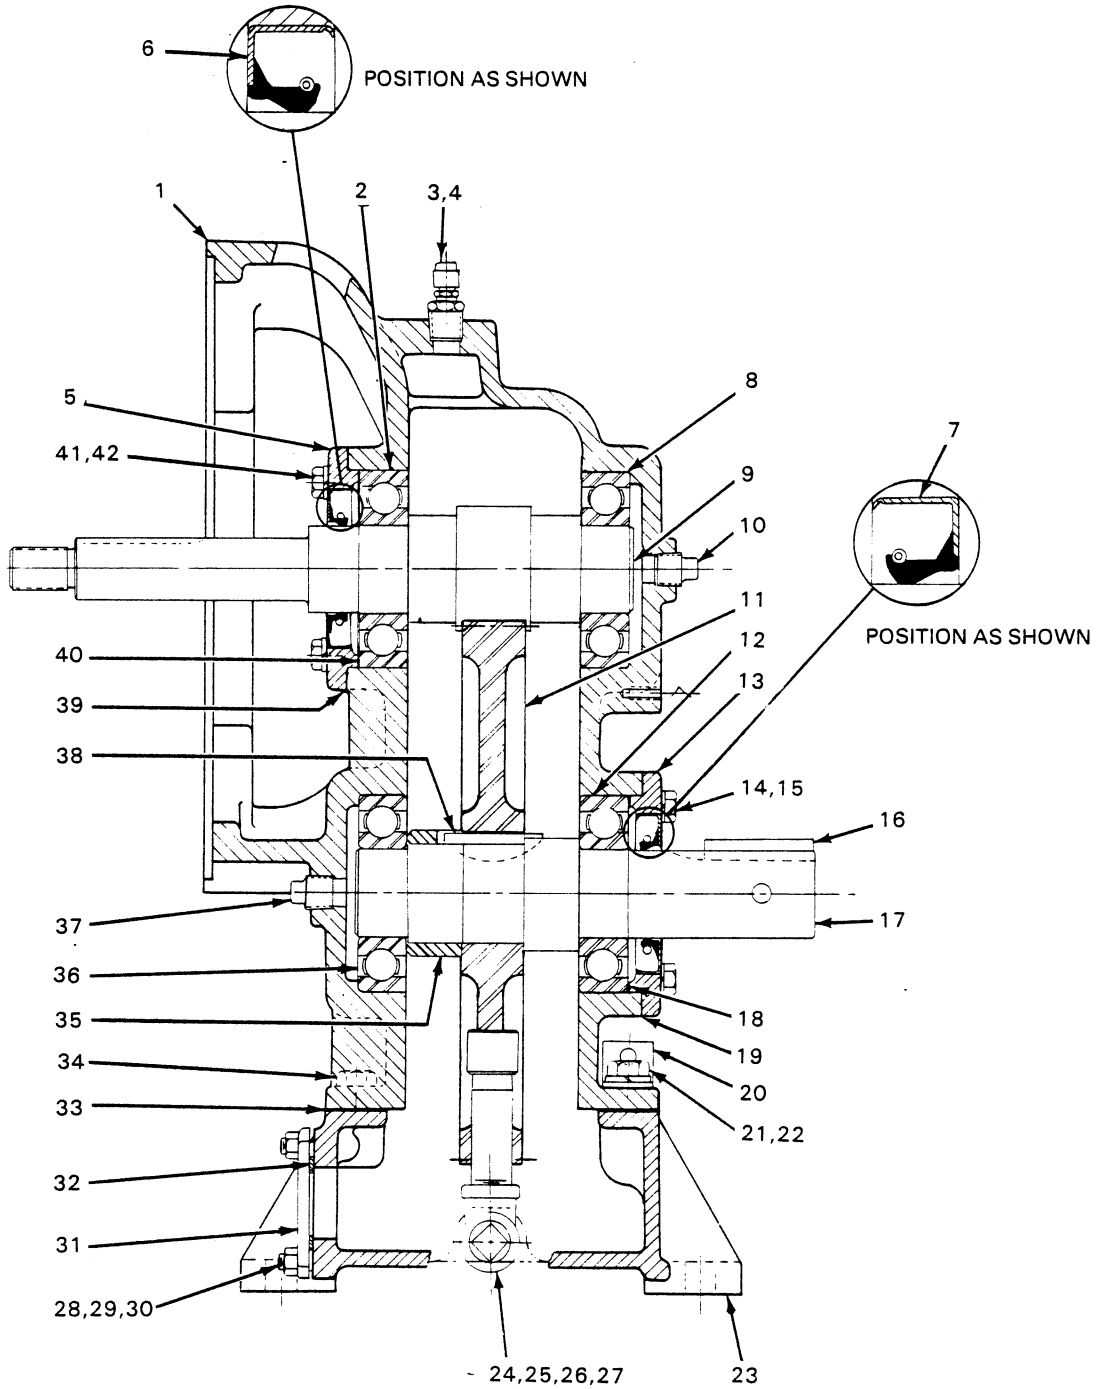

Figure 3. GRP44-17 Gearbox for Pump Model 64B2-G
Drain the gearbox by removing the drain plug (25, figure 3). Clean and reinstall the pipe plug.
Disengage the hex head capscrews (34, figure 3) securing the gearbox housing (1) to the gearbox base (23).
Reinstall the ball bearings on the pinion shaft, making certain that they seat squarely against the shaft shoulders, and reinstall the shaft in the gearbox so that the outboard bearing seats squarely in the bore. Replace the pipe plug at the outboard end. Reinstall the bearing shim set. Position the oil seal as shown in figure 3. Replace the bearing cap gasket (39), and reinstall and secure the pinion shaft bearing cap. Add or remove bearing shims to arrive at the recommended shaft end play of .005 to .012 inch.
Position the drive shaft inboard ball bearing in the gearbox housing, making certain that it seats squarely, and install the inboard pipe plug. Install the drive gear key on the drive shaft, and position the shaft in the gearbox housing. Install the spacer and drive gear, making certain that the gear engages the pinion shaft, and that the inboard bearing, spacer, and drive shaft are seated squarely. Reinstall the outboard ball bearing on the shaft, making certain that it seats against the shaft shoulder. Reinstall the bearing shim set. Position the oil seal as shown in figure 3. Replace the bearing cap gasket (18), and reinstall and secure the bearing cap. Add or remove bearing shims to arrive at the recommended shaft end play of .005 to .012 inch.